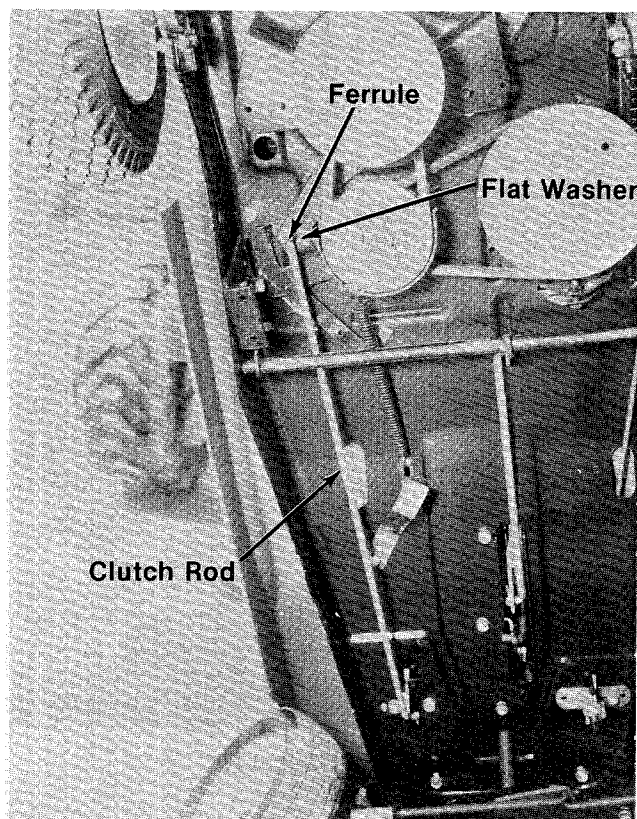

FIGURE 19.
3. If there is not, remove the ferrule and readjust. See figure 19.